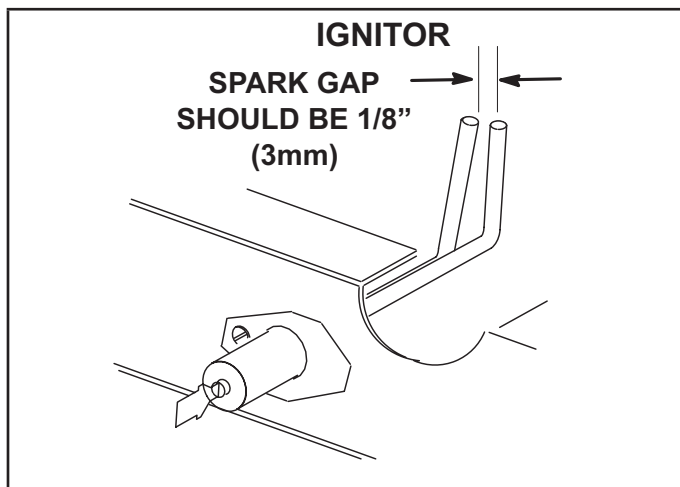

FIGURE 36
- 5 - Locate the ignitor under the right burner. Check ignitor spark gap with appropriately sized twist drills or feeler gauges. See FIGURE 36.